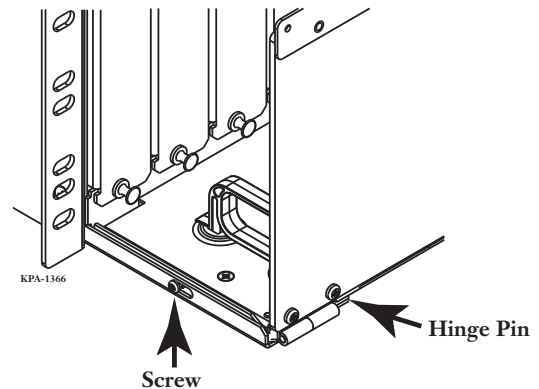

Figure 5 — Hinge Pin on Front Door
Step 2: Slide the screw toward the rear of the housing (Figure 5).